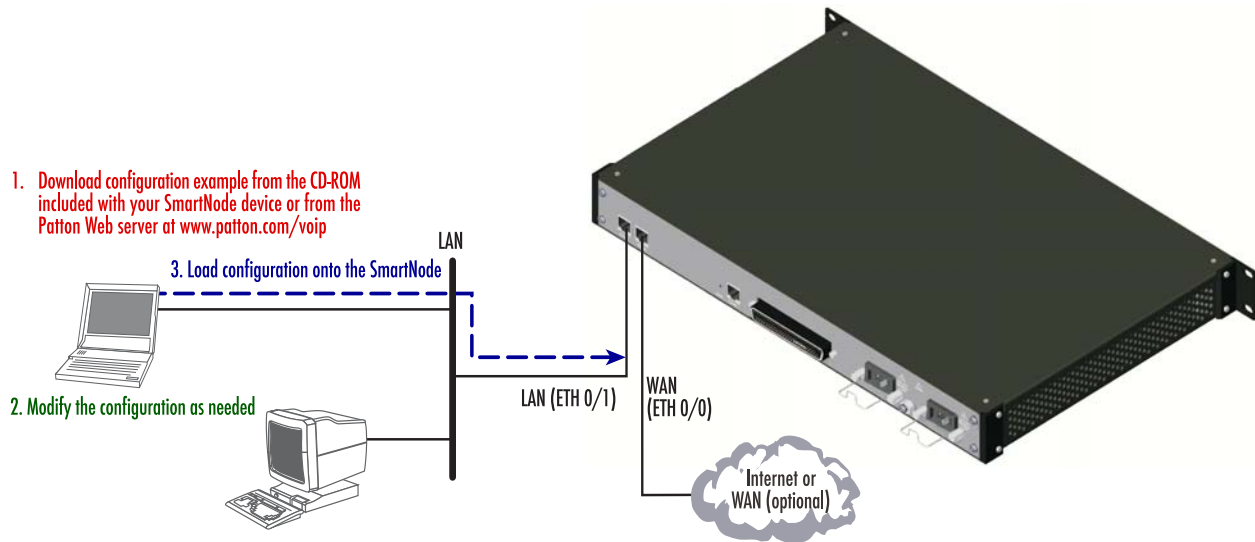

Figure 16. Loading the configuration
3. **Loading the configuration** (see figure 16). Refer to section “2. Connecting the SmartNode to the network” on page 43 for details.